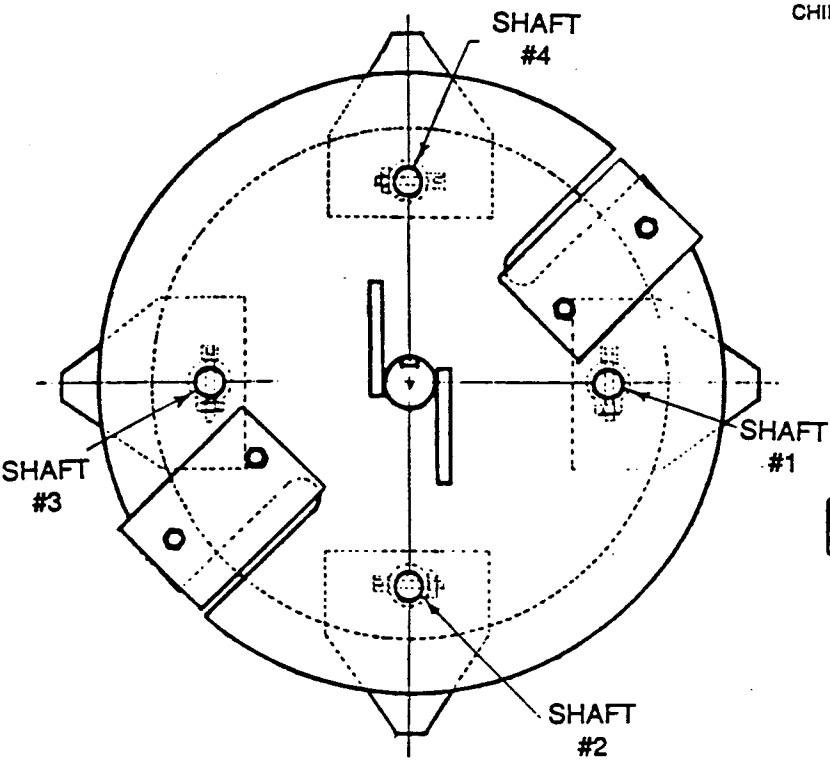

FIG. 1
- STEP 5:** Remove socket head bolt and nut from shaft (1) (see drawing on page 11). Slide knife shaft from rotor assembly and discard old shaft, shredding knives, spacers, nut and bolt.
- STEP 6:** Install in shaft one (1) location new shaft, shredding knives, spacers, nut and bolt. Follow order of assembly shown in Figs. 1 & 2 for shaft one (1) on page 11.
- STEP 7:** Repeat steps 5 & 6 for shafts 2, 3 and 4. Be sure to install shredder knives and spacers as shown in Figs. 1 & 2 page 11 for proper rotor balance.